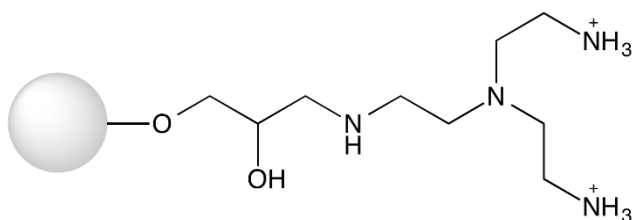

Figure 1. Structure of the ligand used in WorkBeads 40 TREN.
Figure 1.  $K_D$ - $\log M_r$  plots. Standard proteins applied on a 10 x 300 mm column packed with (A) WorkBeads 40/100 SEC, (B) WorkBeads 40/1000 SEC, (C) WorkBeads 40/10 000 SEC and (D) WorkBeads Macro SEC. (E) WorkBeads 200 SEC is packed in a 16 x 900 mm column.
WorkBeads 40 TREN resin contains ligands based on Tris(2-aminoethyl)amine (TAEA). The structure of the ligand used in WorkBeads 40 TREN is shown in Figure 1.
Figure 1. Separation of a protein mix on a BabyBio TREN 1 ml column. The peaks from left to right corresponds to apo-transferrin,  $\alpha$ -lactalbumin and soybean trypsin inhibitor. The blue line corresponds to the absorbance at 280 nm and the red line to the conductivity.